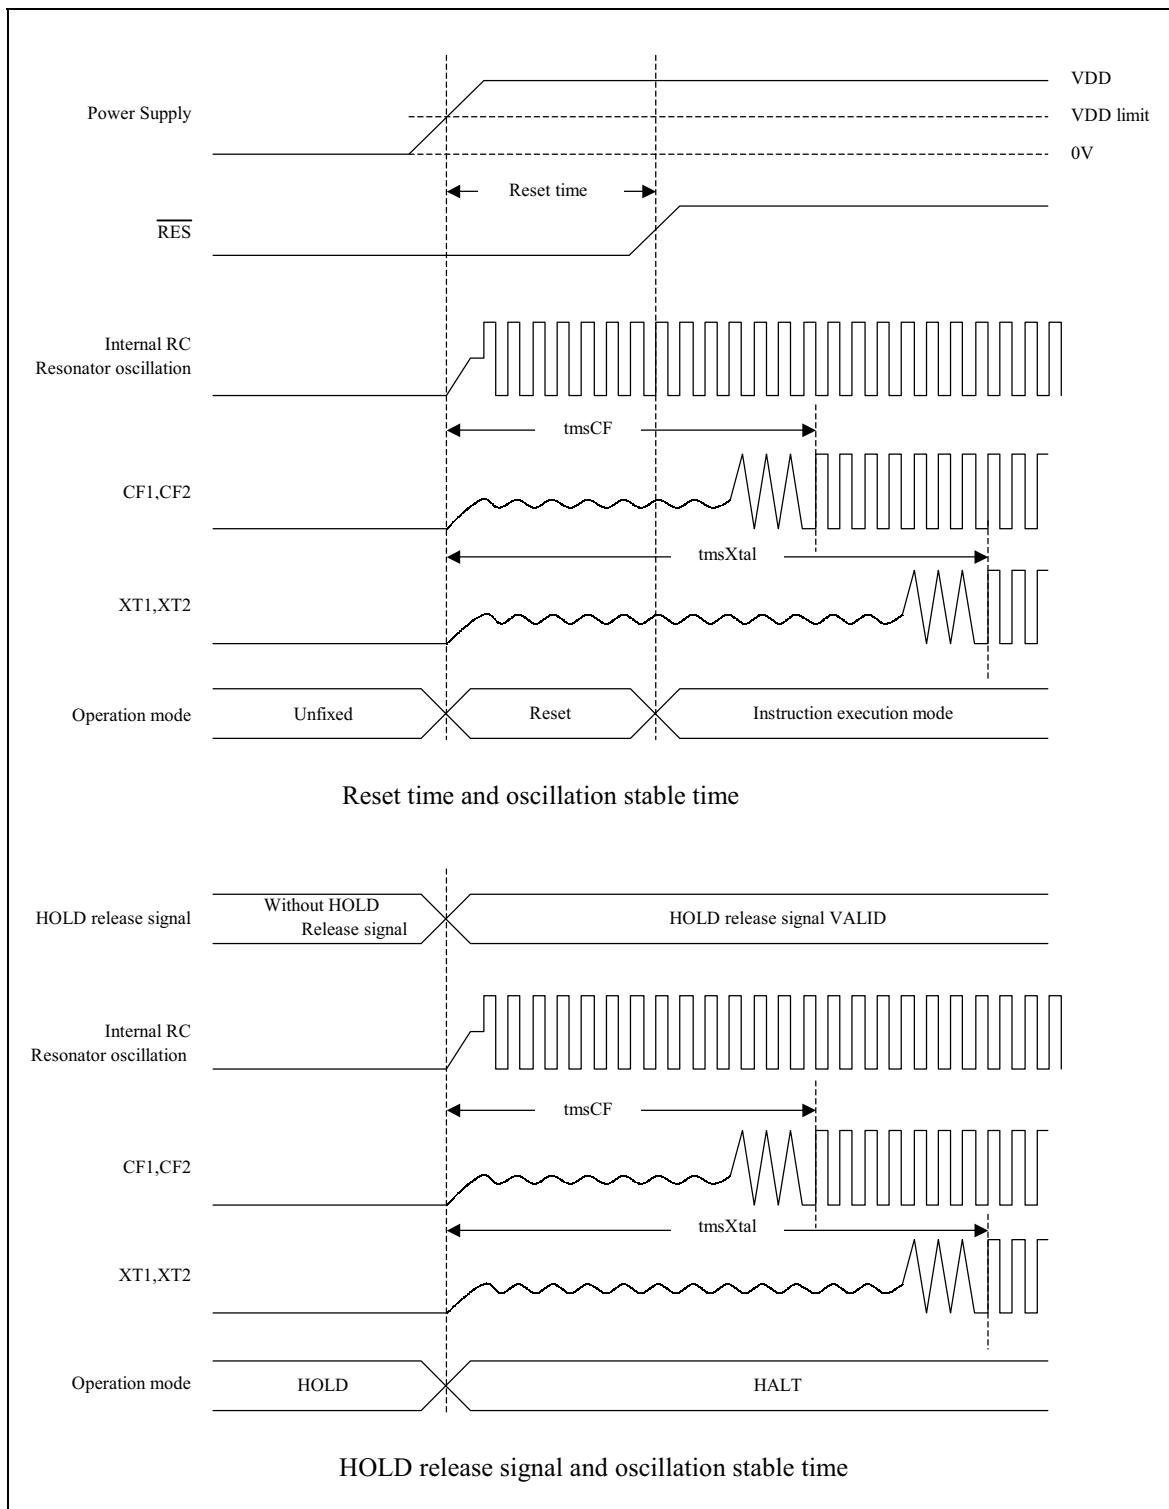

Figure 4 Oscillation stablization time
*The oscillation stabilizing time is a period until the oscillation becomes stable after VDD becomes higher than minimum operating voltage. (Refer to Figure4)
*The oscillation stabilizing time is a period until the oscillation becomes stable after executing the instruction which starts the sub-clock oscillation or after releasing the HOLD mode. (Refer to Figure4)